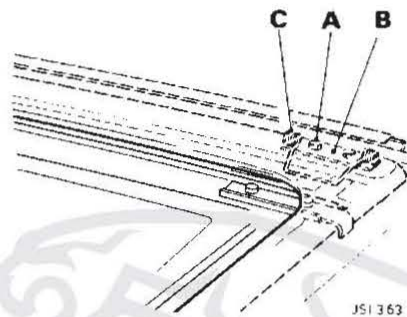

Fig. 4
3. Slacken, but do not remove, the two nuts, A Fig. 4, securing the spring retaining bracket, B Fig. 4, sufficiently to allow the spring, C Fig. 4 to be removed.